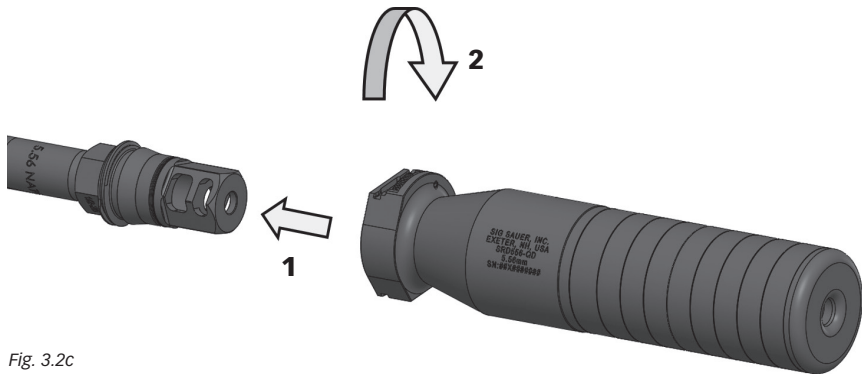

Fig. 3.2c
- b. Start threading the suppressor clockwise onto the QD base by hand until the tapered bearing surfaces of the suppressor and the QD base come into contact and tighten until snug (See Fig. 3.2c).